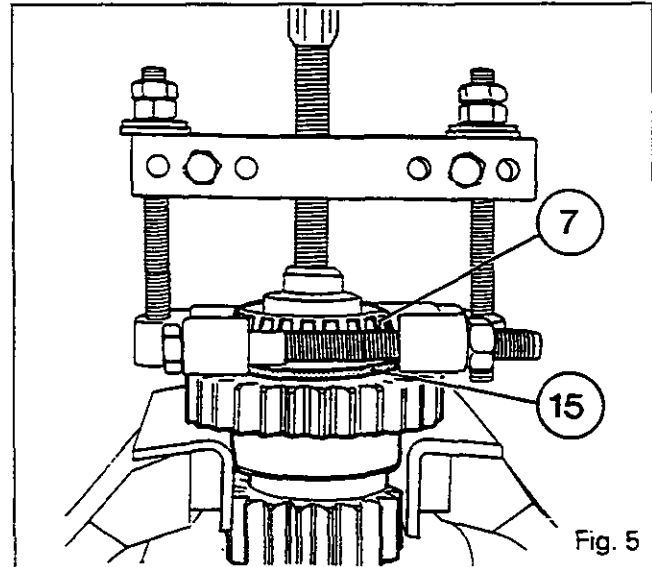

Fig. 5
28. Extract the bearing cone (7) and the deflector (15) (Fig. 5), then remove the bearing cone (4).